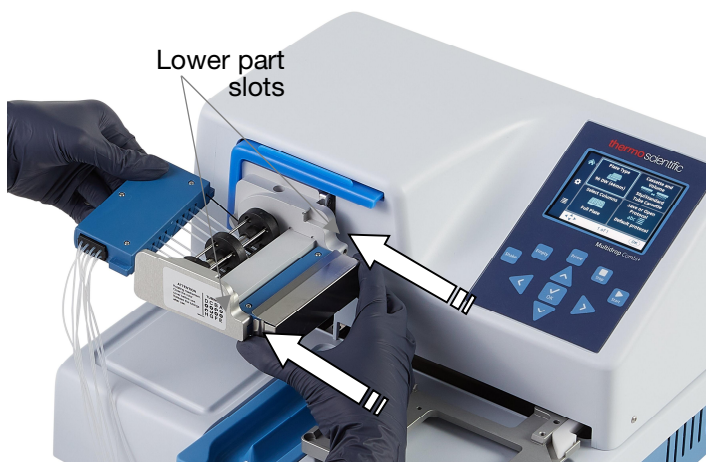

Figure 4-14. Inserting the lower part of the dispensing cassette into its slots
2. Carefully place the eight tubes below the pump rotor and insert the lower part of the dispensing cassette into the lower part slots of the pump body (Figure 4-14). Check